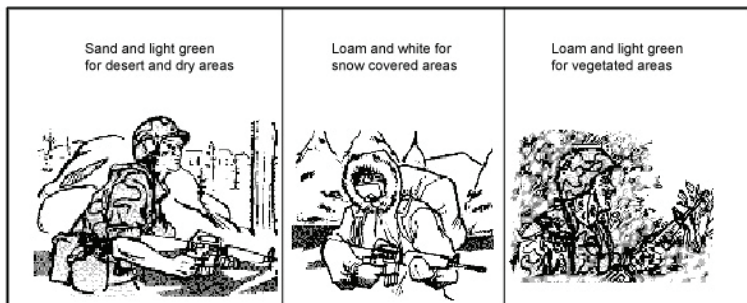

Figure 052-191-1361-1. Colors used for camouflage
d. Color. Blend individual camouflage with the surroundings or, at a minimum, ensure that objects do not contrast with the background (figure 052-191-1361-1).